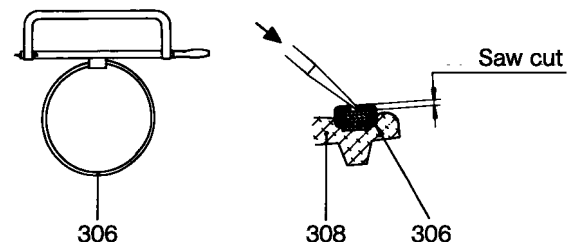

Figure 2: Removal of the joint clamp.
- Remove hexagon nuts (607) and fan-type lock washers (608) as well as hexagon screws (606).
- Withdraw suction casing (505) over the rotor (401). In doing so, see to it that the fine-machined rotor is not damaged.
- Remove gasket for suction casing (501).
- Cut lock at the joint clamp (306) by means of a metal cutting saw, and with a screw driver, press out to both sides. Remove joint clamp (306) from the joint collar (308) (please refer to Figure 2).